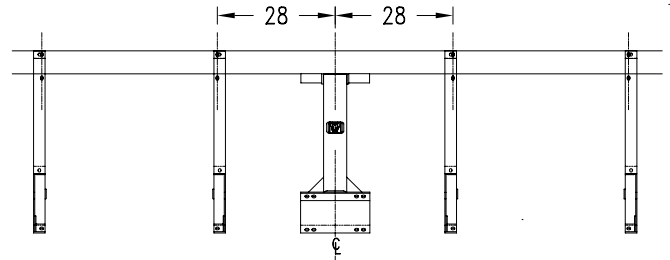

Figure 2
1. Attach the fertilizer bar assembly (#1) to planter frame using 3/4" corner u-bolts (#2) and 3/4" hex flange nuts (#3). Use the dimensions shown in Figure 2 as reference points to attach the inside tank supports. The outside tank support should be located at the proper distance for the tank depending on whether the planter is a 6 row or 8 row.